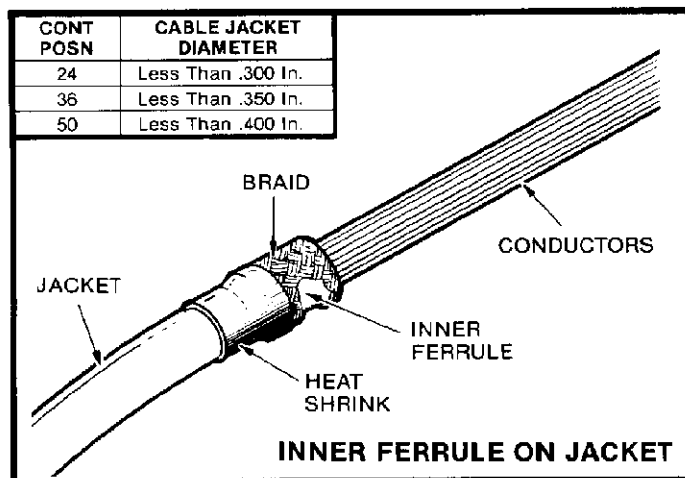

Fig. 3
1. Slide inner ferrule over outer cable jacket and stop flush with end (see Figure 3).